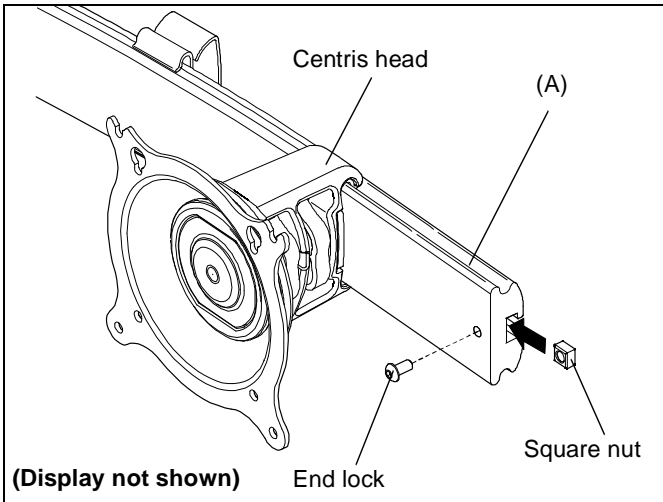

Figure 8
11. Reinstall end lock(s) into mounting rail using the 5/32" hex key (J). (See Figure 8)